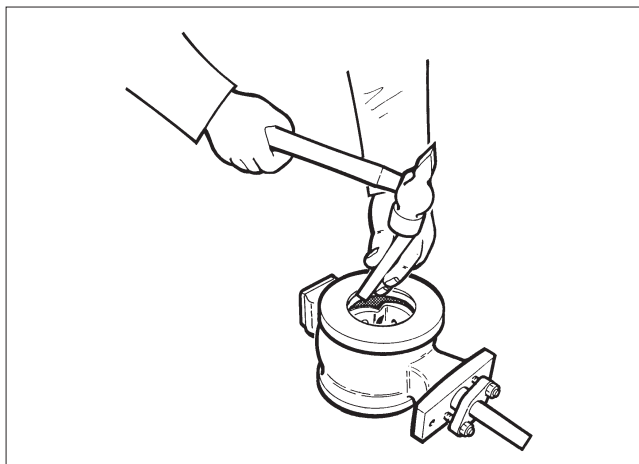

Fig. 12 Knocking off the seat
- Tap the seat (4) with a soft spindle all around the circumference from the upstream side to make it fall into the body, Fig. 12.